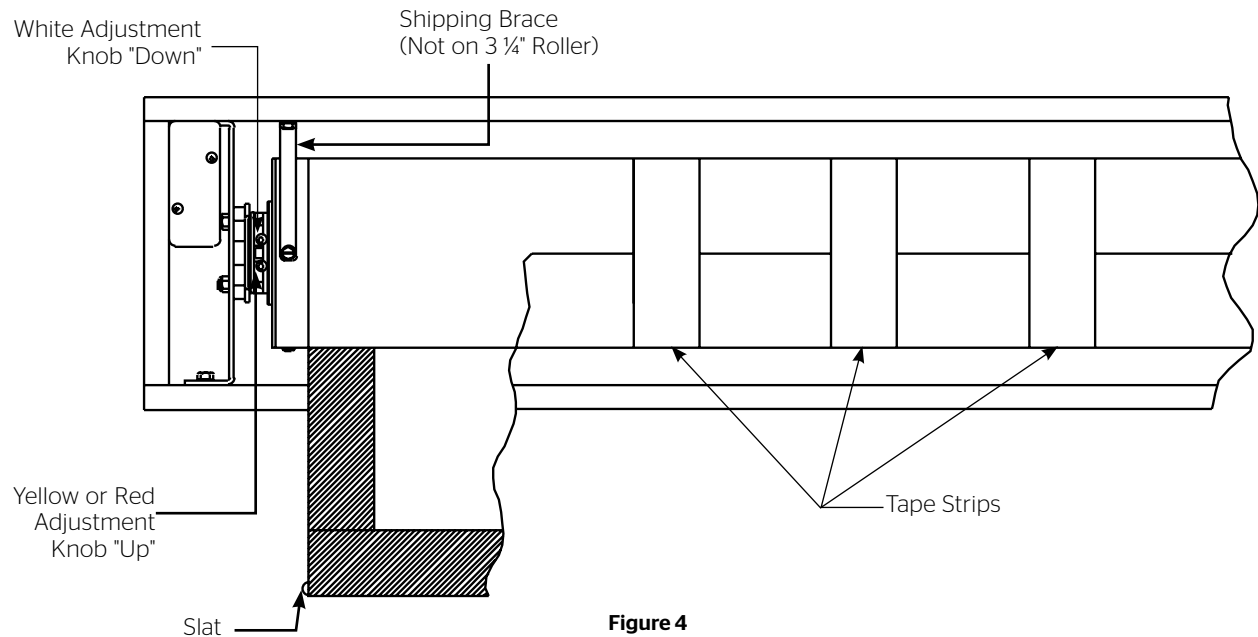

Figure 4
4. Remove shipping brace by removing 2 hex head screws (Fig. 4).
5. Remove wrapping paper and tape strips (Fig. 4).
2. When the screen stops, turn the white "down" limit knob (Fig.4) one-quarter turn counterclockwise. Test by raising picture surface approximately two feet, then lower again. Repeat until desired picture surface position is attained.
3. Turn the white "down" limit switch (Fig. 4) one-quarter turn clockwise. Test by raising picture surface approximately two feet, then lower again. Repeat until desired picture surface position is attained.